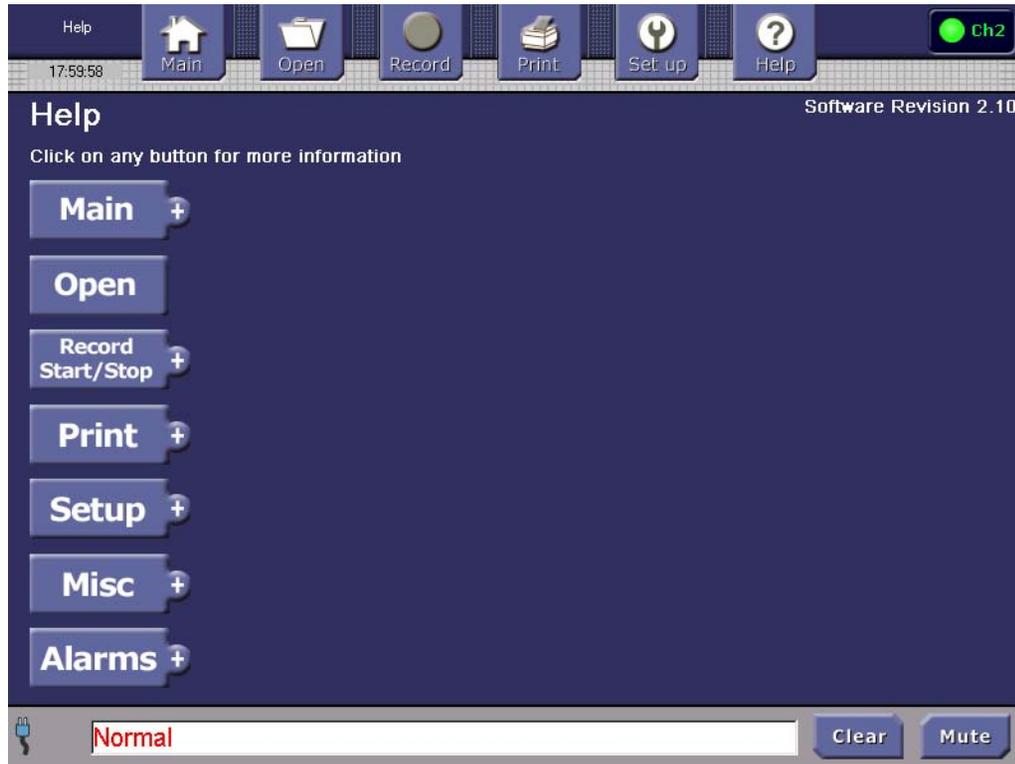

Figure 41. Help Index
1. Press the **Help** button. The Help Index and current software version is displayed, as shown in Figure 41.